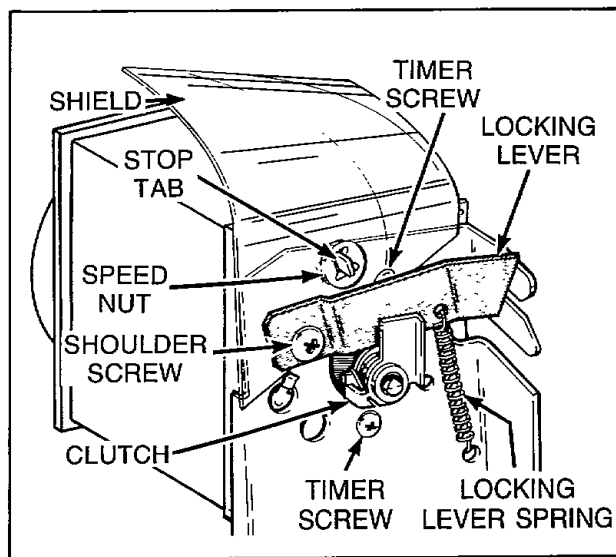

Figure 4
- d. (Models equipped with Mallory Timer) - Remove shoulder screw, locking lever and spring, *Figure 4*.
**NOTE:** When locking lever and spring are installed, they must be positioned as shown in *Figure 4*, and must pivot freely on shoulder screw.